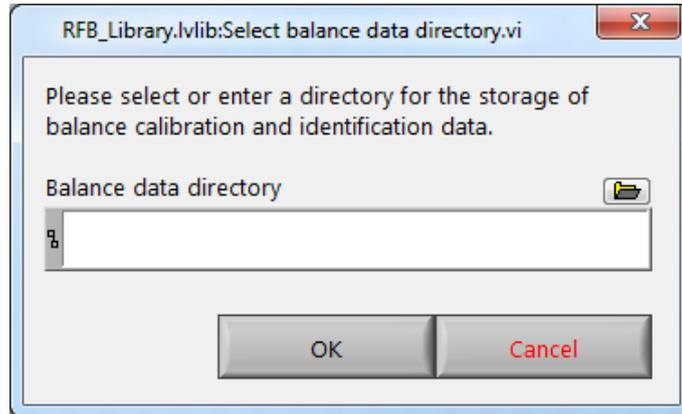

Figure 4 – Balance data directory selection dialog
- 2) Select a directory in which you wish to store RFB Calibration data (see Figure 4)